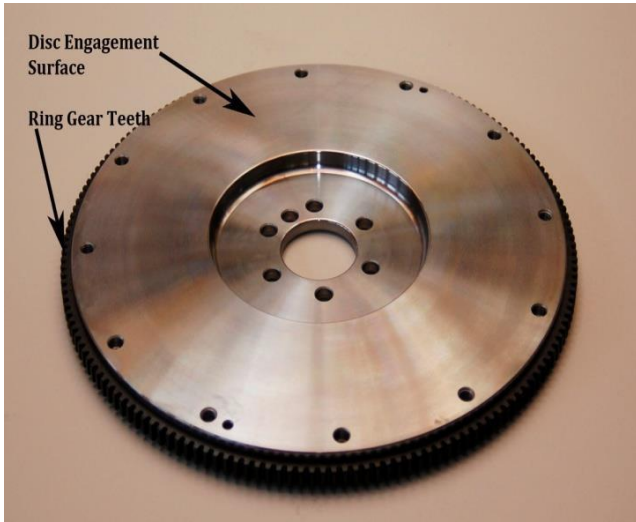

Figure 3
- 3) Inspect flywheel for chipped teeth on the ring gear and be certain the flywheel/disc engagement surface is clean, flat, and free of oil and/or grease. Be certain the pilot bearing is in place and is clean and free of nicks and burrs. If damaged, replace the pilot bearing. Test fit the pilot tool to see how far the tool engages the pilot bearing. See Figure 3.